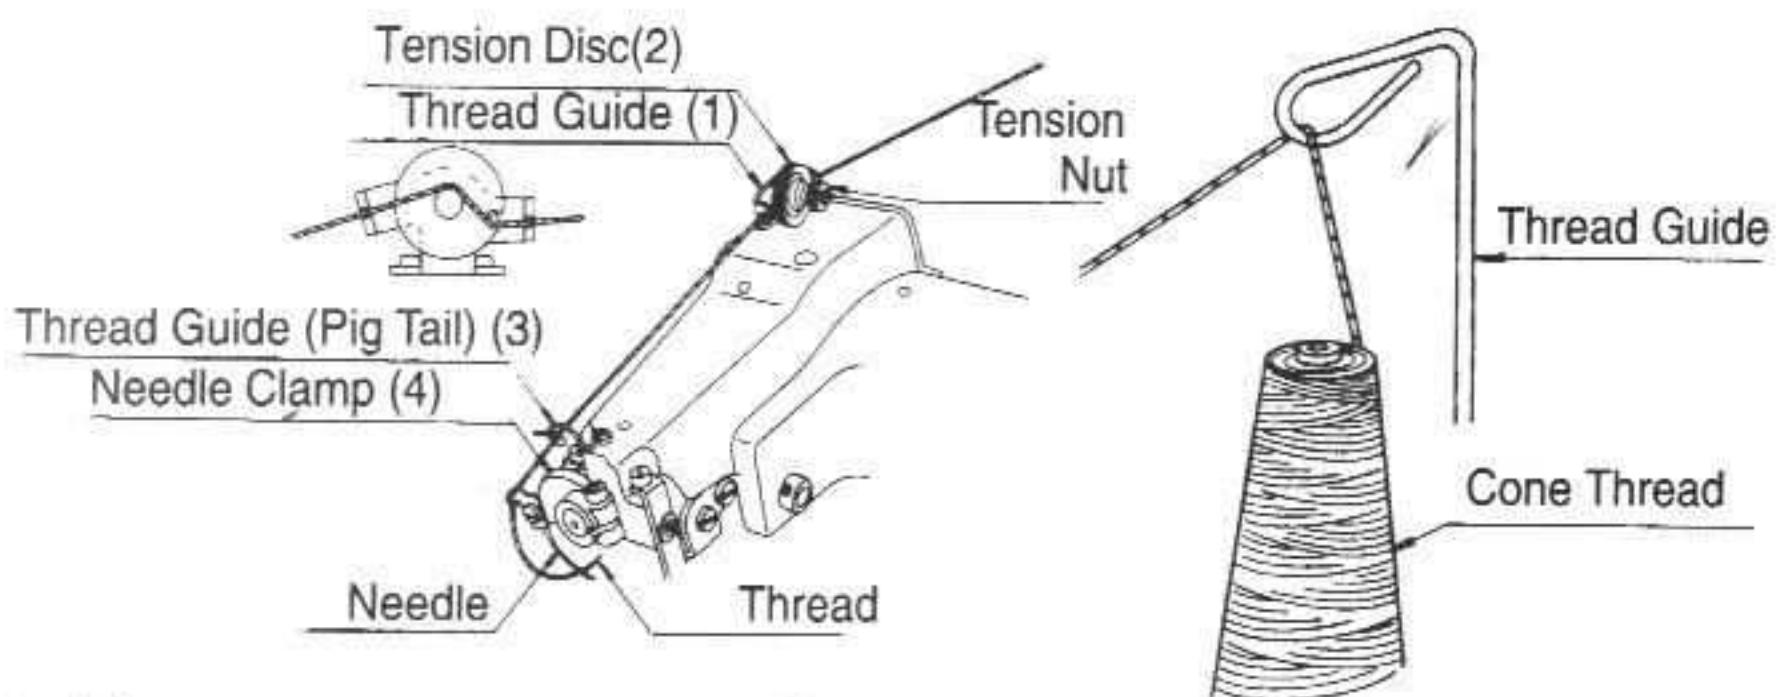

Fig.9
A. When using sewing thread from a cone, place it over plastic cup on thread stand (Fig.9)
C. For correct threading of machine, follow carefully course of thread as shown on Fig. 9.
When reaching to thread tension device, enter thread first in rear eye of thread guide (1). Then, lead thread between the two tension discs (2) as per Fig. 9. Now enter it from behind through the front eye of thread guide. Lead thread forward to front of machine. Enter thread from above into thread guide (3), and eyelet of needle clamp (4).